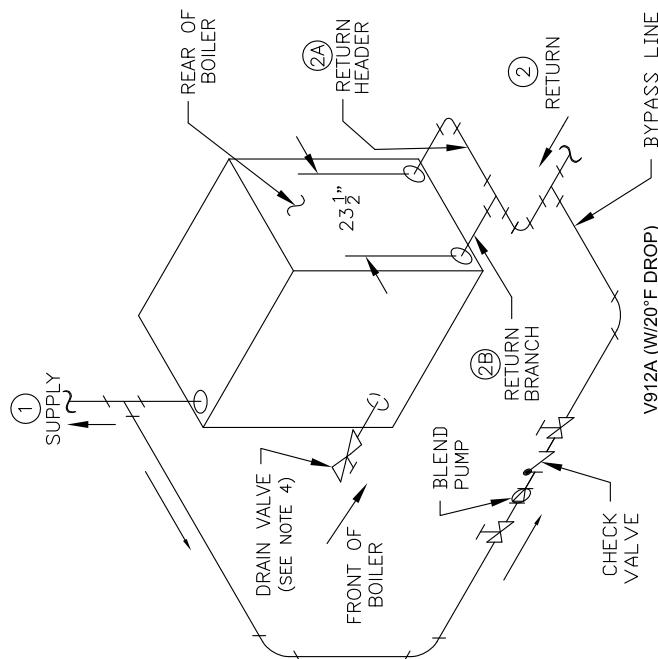
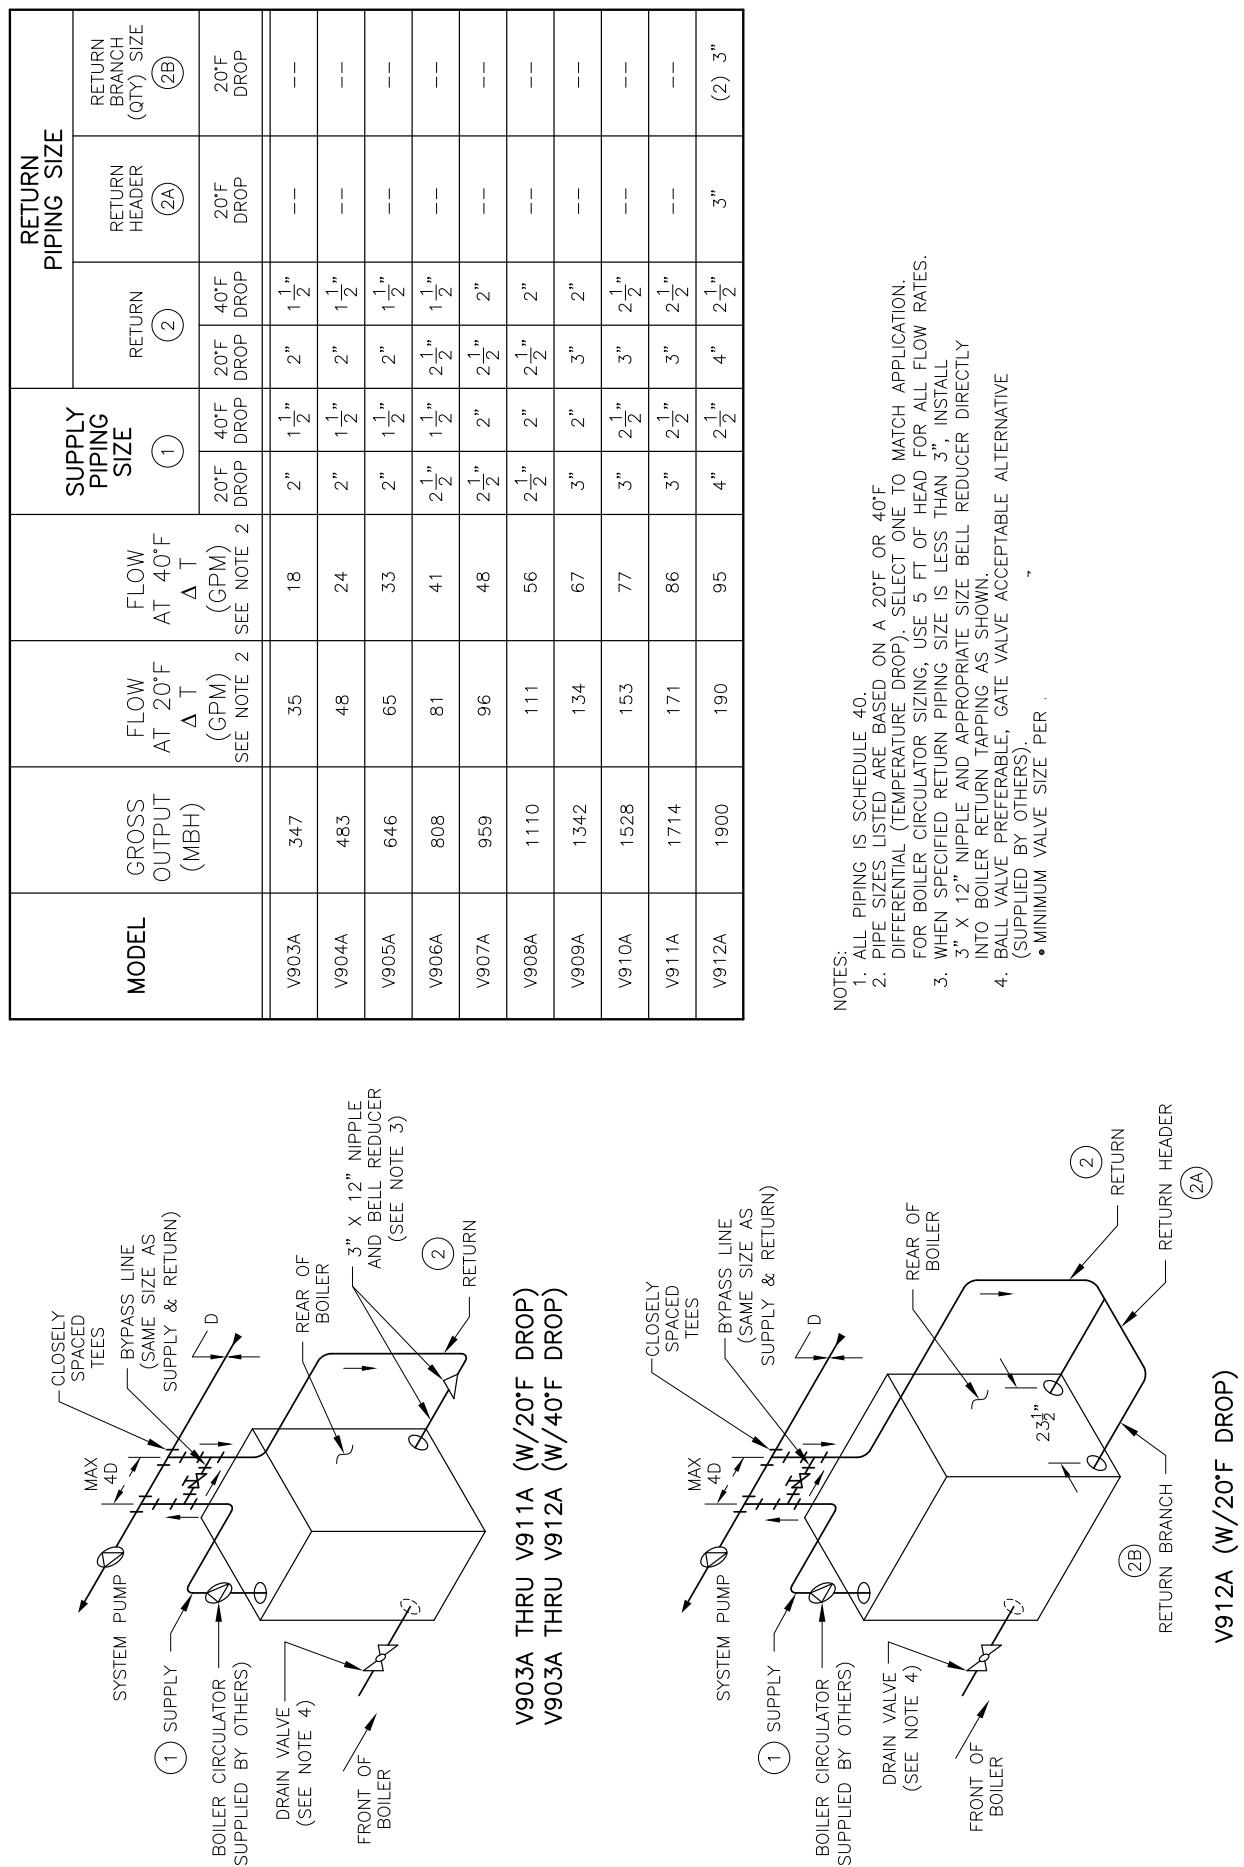

Figure 28: V9A Series Minimum Piping Details, Bypass with Blend Pump - Water Boiler
Figure 29: V9A Series Minimum Piping - Primary Secondary/with Bypass - Water Boiler
- ii. If minimum return water temperature cannot be maintained at 135°F or the temperature differential across the system varies, a blend pump is recommended as a minimum to help protect the boiler from flue gas condensation and/or thermal shock. See piping details in Figure 28. Primary secondary piping with a by-pass is an alternate to the blend pump method and is shown in Figure 29.